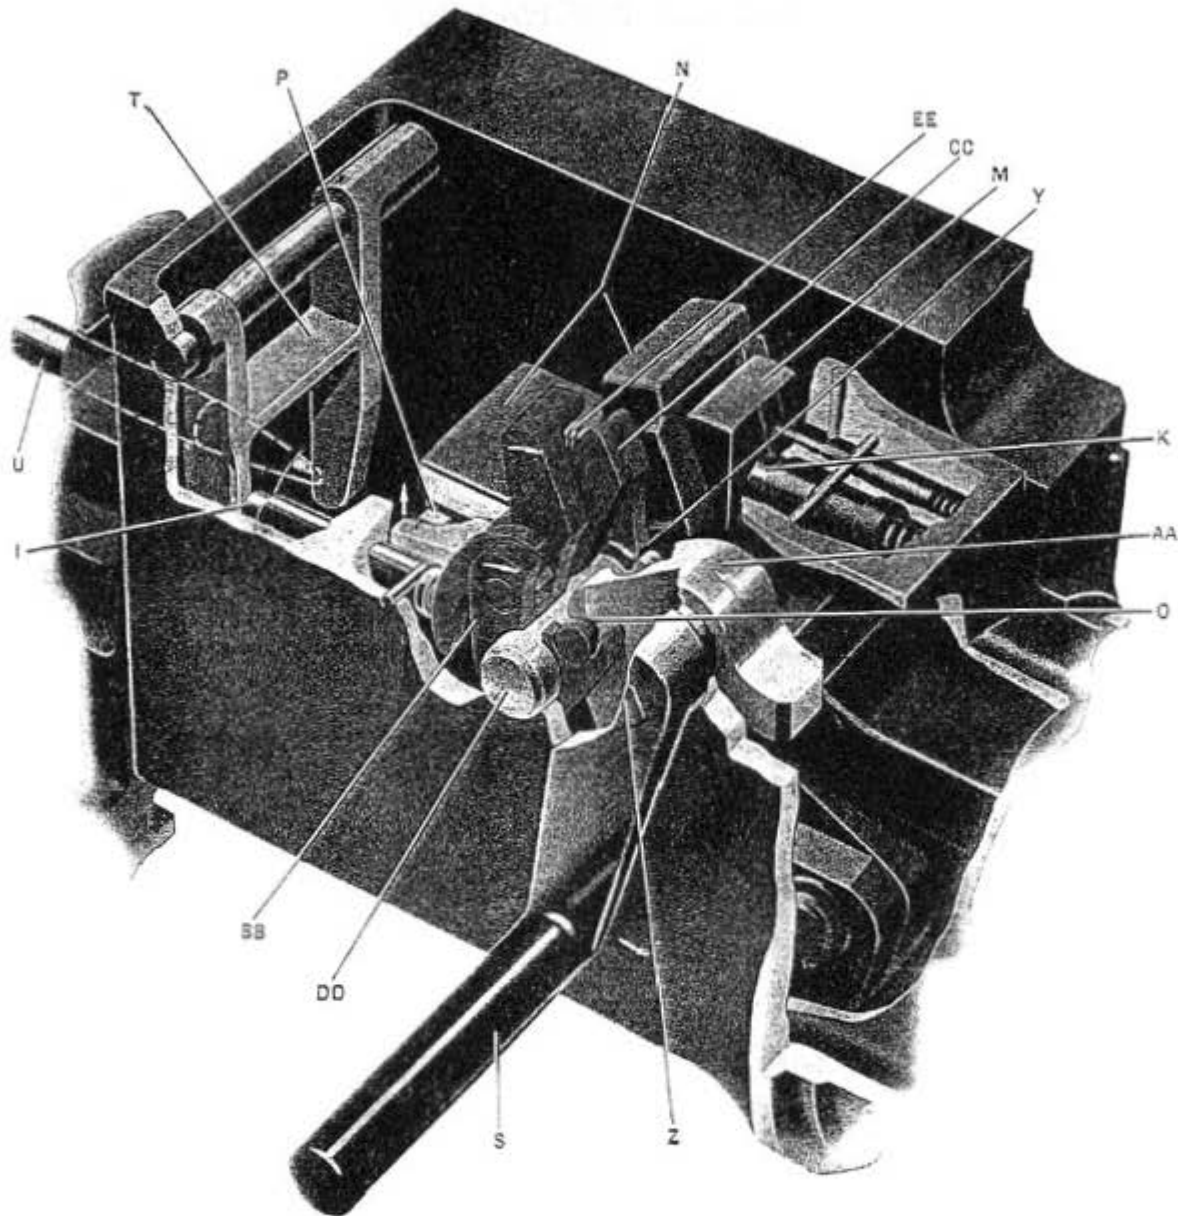
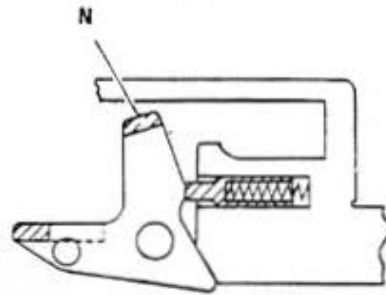

Figure 26—Trigger action on parallelogram
Figure 30—Action of spring plungers against parallelogram top lever
When firing, the pressing of the trigger (S) Figure 26, turns the trigger retaining bolt (Z) in a counterclockwise direction. The trigger intermediate lever (AA) is on the trigger retaining bolt (Z) and is also turned. A recess in this trigger intermediate lever (AA), Figure 26, engages a pin on the trigger pawl holder (Blue) and, as illustrated, this trigger pawl holder is made to turn on its axis in a clockwise rotation.
The trigger pawl holder (Blue), Figure 26, has an axis pin (also blue), and on it is placed the trigger pawl (Red). In between the pawl holder (Blue) and the pawl (Red) is a spring (EE) that is under compression in order to keep a toe on the pawl (Red) in engagement at point (Y) with a notch on the trigger crank (Yellow). As stated above, pressing the trigger turns the trigger bolt (Z), Figure 26, counterclockwise; the trigger intermediate lever (AA), Figure 26, being on the same bolt is also turned counterclockwise; the recess (O) in the trigger intermediate lever (AA) turns the pawl holder (Blue) clockwise and carries the trigger pawl (Red) with it as a unit. As stated above, the toe of the trigger pawl is in engagement with the notch on the trigger crank and, therefore, when the trigger pawl is rotated clockwise the trigger crank also is rotated clockwise.
The trigger pawl (Red), Figures 26 and 27, is on an axis pin in a trigger pawl holder (Blue). In between the pawl holder and the pawl is a spring (EE), Figure 26, that is under compression in order to keep a toe on the pawl (Red) in engagement at point (Y) with a notch on the trigger crank (Yellow). During the firing travel of the trigger pawl it remains in engagement with the trigger crank (Yellow).
Releasing the trigger allows the trigger intermediate lever (AA), Figure 26, trigger pawl holder (Blue), trigger pawl (Red), and trigger crank (Yellow) to return to the position shown in Figure 26. The parallelogram top lever (N) is lowered by its plunger spring, Figure 30. This drops parallelogram front lever (V),